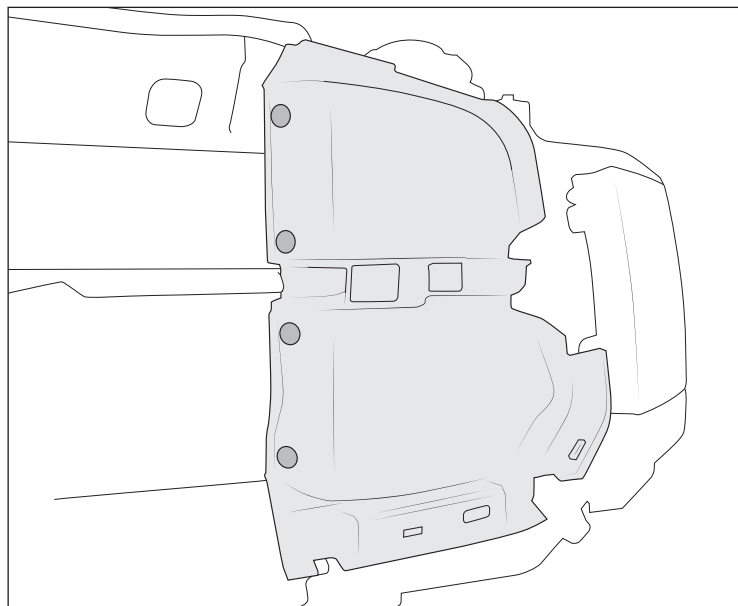

Figure 9
5. Drill additional 1/4" holes on inboard sides of air diverters and through plastic radiator surround (fig. 9). **NOTE: be careful not to drill too far and damage radiator or other components.** Install push fasteners to retain inboard side of diverters.